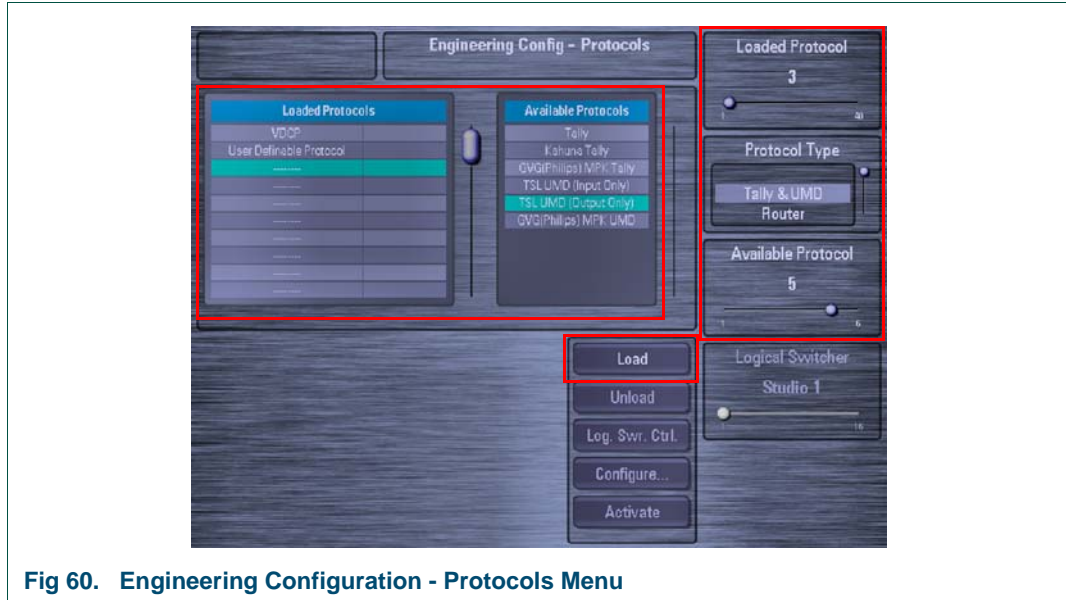

Fig 60. Engineering Configuration - Protocols Menu
1. Use the **Loaded Protocols** parameter to select a free slot in the table, then use the **Protocol Type** parameter to select "Tally & UMD". Use the **Available Protocols** parameter to select **TSL UMD (Output Only)** and then touch the {Load} button (Fig 60.).
2. To select an RS422 port on the Kahuna 360 mainframe, touch the {Configure...} button on the **Engineering Config - Protocols** menu (Fig 60.).